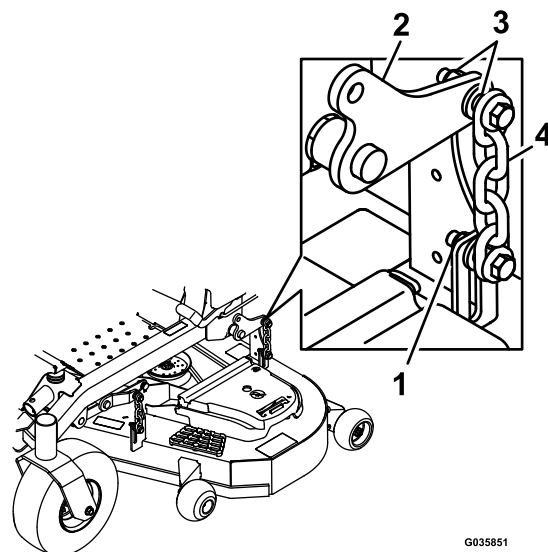

Figure 123
13. Loosen the locknuts (Figure 123) on all 4 corners and ensure that the mower deck is sitting securely on all 4 blocks.